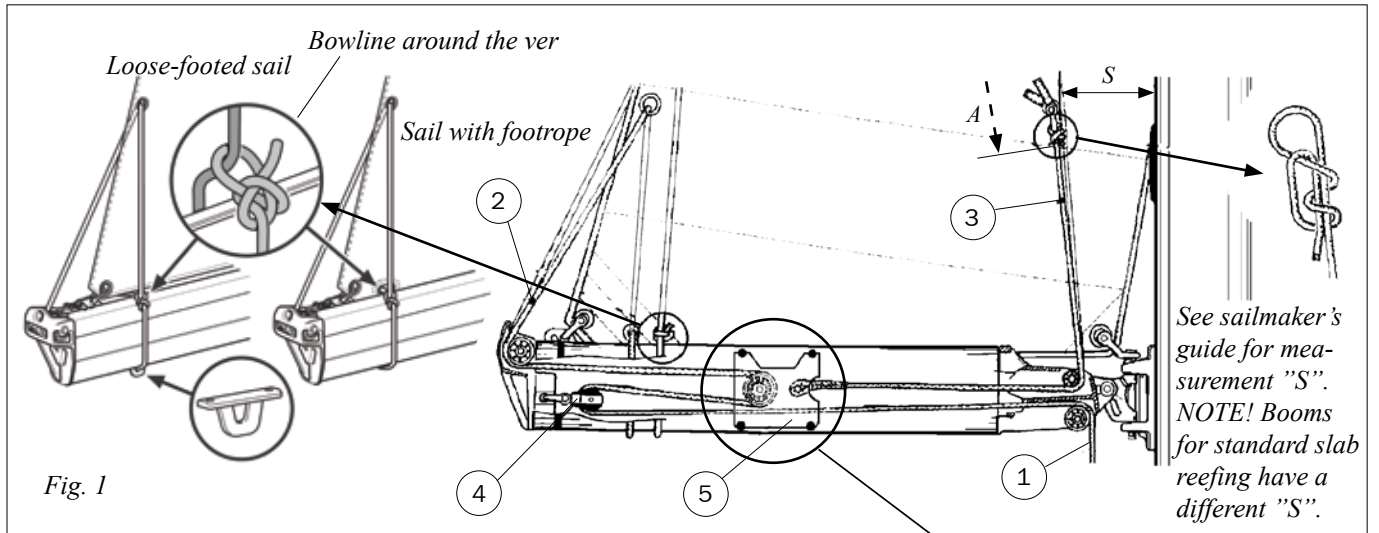

Fig. 1
7. Fit the shaft with its two sheaves in the forward upper space in the boom inboard end fitting (see fig. 1). Secure the shaft with the circular clips in each end. Ensure that the pilot lines run correctly round their respective sheaves.
8. Fit the loose single blocks ④ to the holes in the flanges of the boom outboard end fitting. The shackle threads must shall face out towards the boom section wall.
- Take the aft end of the starboard long reefing line ② that is taped to the boom section, and feed it up through the block ④, forwards and up through the SLR block ⑤, then aft out through the starboard boom end sheave slot (see fig. 1). Make a stopper knot in the end.
- Push the SLR block into the boom, at the same time pull the shorter reefing line ③ at the forward end. Check the long line ② that runs between boom end fittings is not trapped between SLR car and the boom side wall.
- Repeat action 7 and 8 with the port side long reefing line ②.
- Secure the reefing line ① either in the cockpit or where it exists the boom inboard end fitting.
- Pull the reefing line ② until then the SLR block ⑤ is stopped internally by the outer boom end-fitting. Secure the line temporarily.
- Tighten the reefing line ③. Where it exits the upper surface of the boom inboard end fitting, make a felt pen mark.
- Free the reefing line ①. Pull out about 1 m of reefing line ③.
- Make a second mark on the reefing line ③ A mm nearer the SLR block than the first mark. The dimension "A" for each boom type is listed in table 1.
- Tie on the shackle at the second mark with the knot that is showed in fig. 1. Pull the knot hard. The second mark A should be visible just below the knot.
1. Connect the shackle on the reefing lines ③ to respective sides the sail.
2. Slacken the reefing lines ②, feed through the respective reef cringles, and secure around the boom (See fig. 1). If the sail has a footrope running in the boom's sail groove, it must have cringles or slits to allow the reefing lines ② to be feed through before being secured around the boom. The holes must be positioned correctly to ensure effective reefing. If the sail is loose-footed, the reefing lines are free to move. They can be held in the correct position a slide in the boom's underside track. (For suitable Seldén slide, see table 1).
3. Hoist the sail and check that there is some slack in the front reefing lines ③.
6. Cut surplus line on the reefing line ③ under the shackle. Leave a 30 mm tail outside the knot.